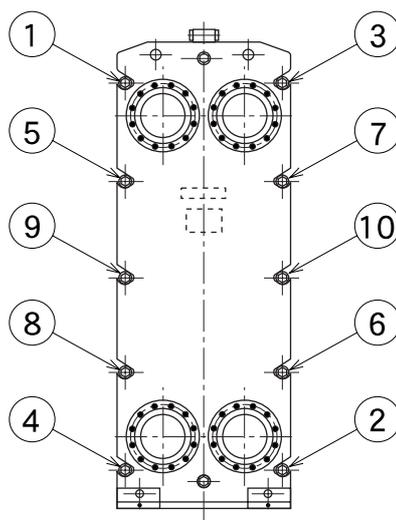

Fig.7.1 Tightening sequence
- (1) Tighten the middle bolt nuts ⑨⑩ alternately. (Fig.7.1).
- (2) When it becomes hard to tighten them, tighten other middle bolt nuts ⑤⑥⑦⑧ alternately, including the top and bottom bolt nuts ①②③④.